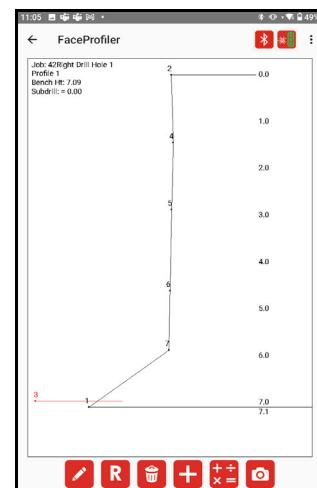

Figure 28
2. Press the laser's FIRE button. The Android device will beep when data is received from the laser. The data will be stored and the plot will be updated with each new shot. Figure 28 is an example of how a profiled face may appear.